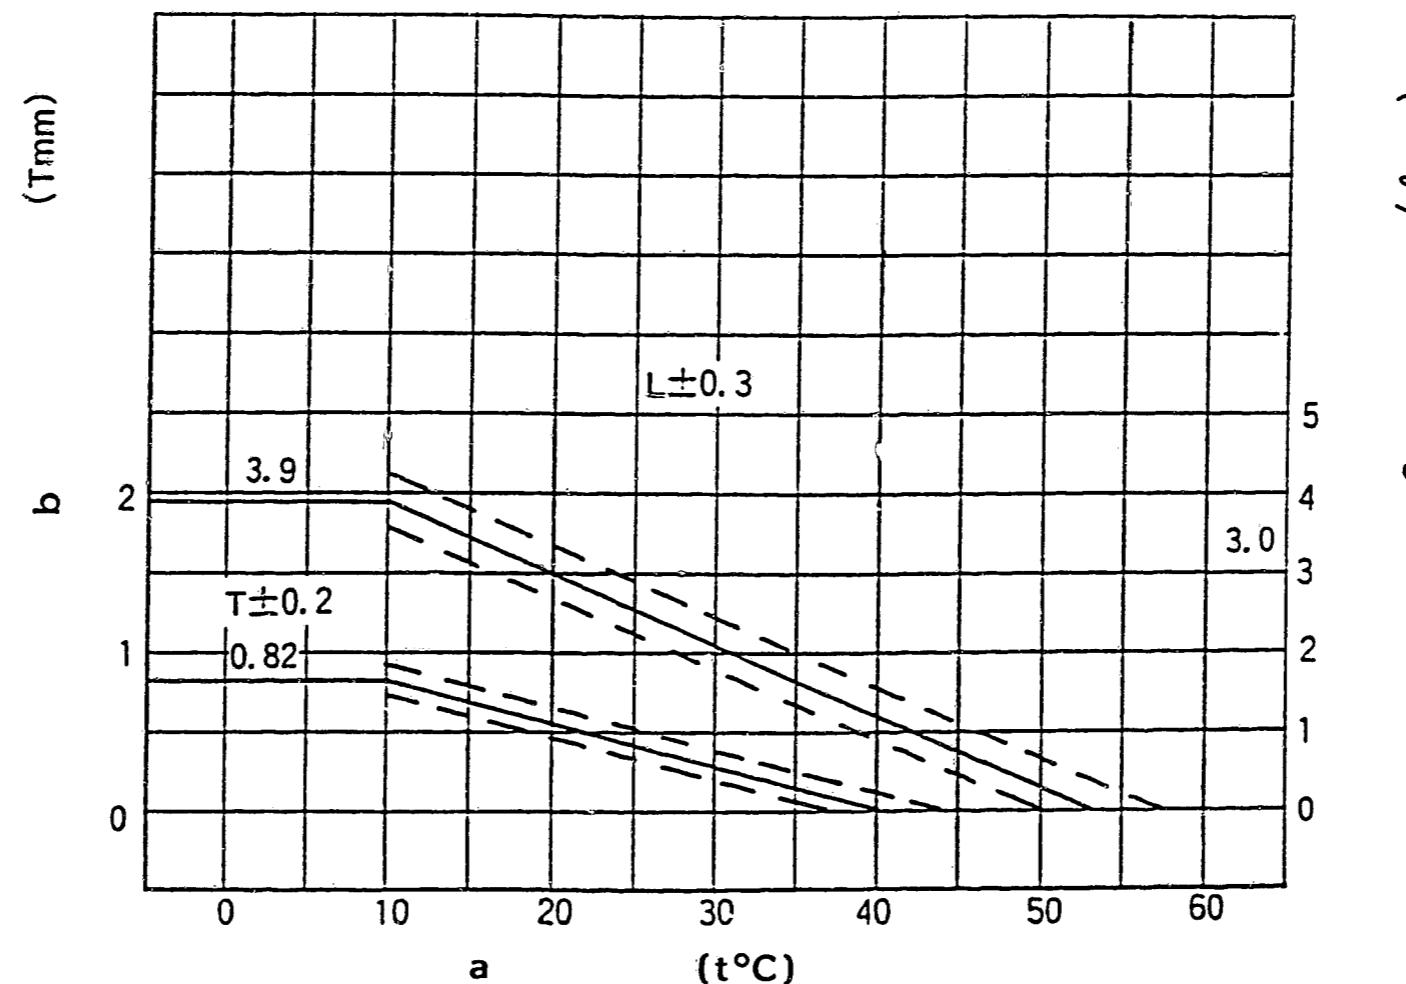

Figure 13
- 1) Calculate the block gauge dimension  $l \pm 0.05$  mm from (Fig. 13) according to the atmospheric temperature at the time of adjustment.
- 3) In the above condition, adjust screw (2) so that the intermediate lever setting screw contacts the control lever. Then, tighten nut (1) to fix the screw.